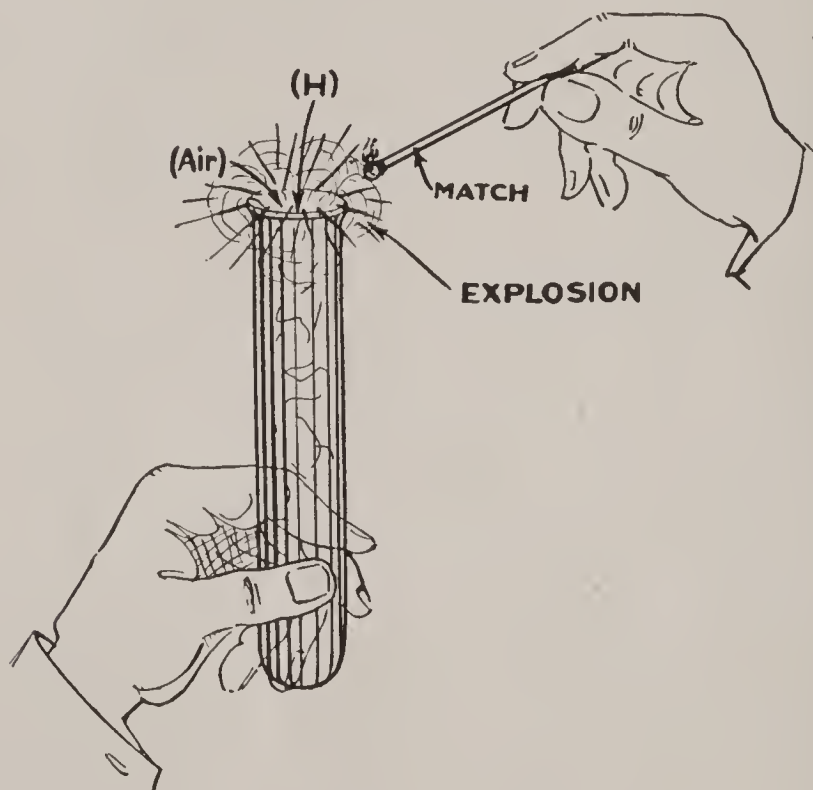

FIG. 84.—The Hydrogen Mixed with Air Explodes.
Finally, take another test tube full of hydrogen (H), hold it mouth upward, as in Fig. 84, and touch a lighted match to the mouth of it, and there will be an explosion. This experiment shows that when hydrogen (H) and oxygen